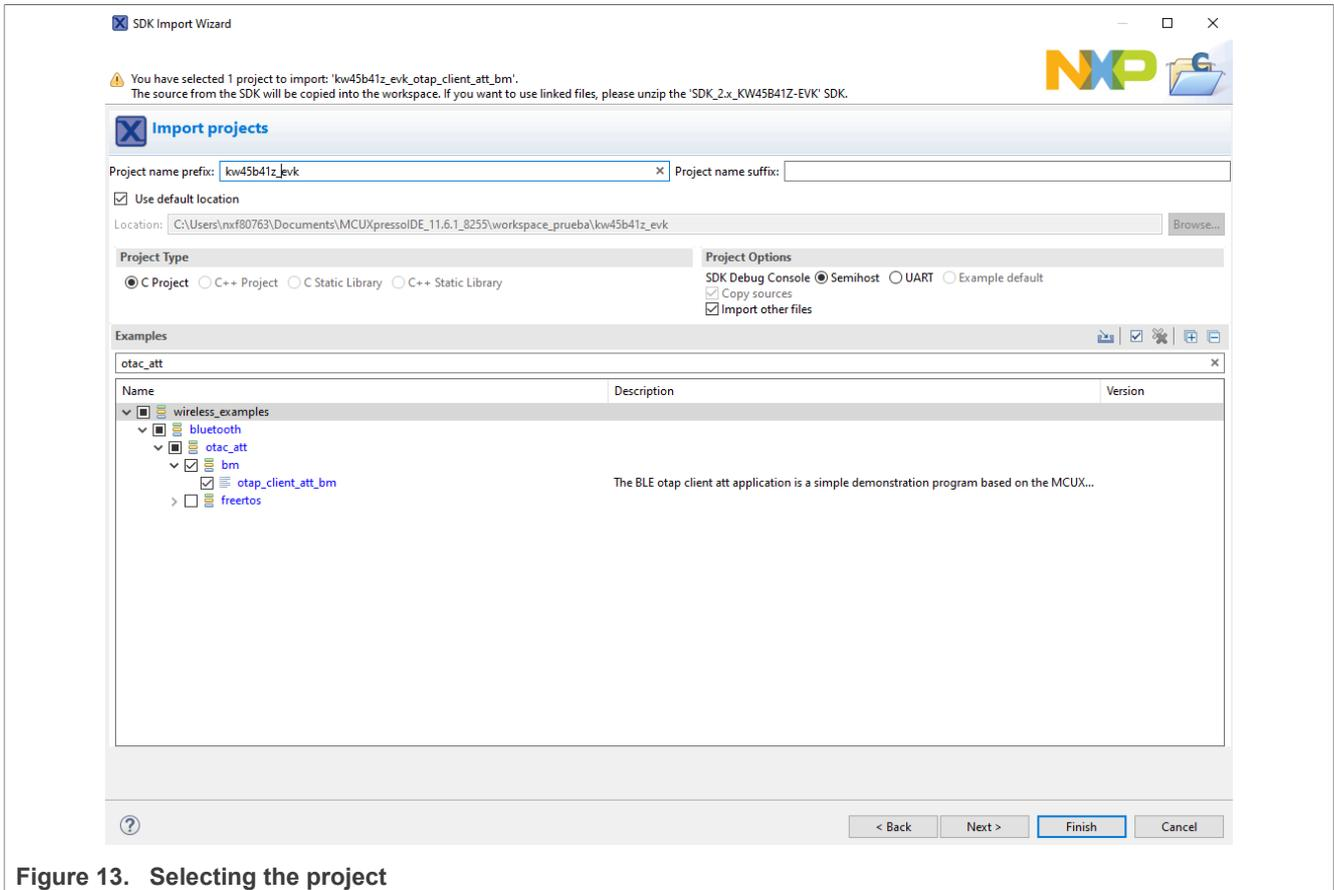

Figure 13. Selecting the project
- In the **Examples** textbox, type `otac_att`. Select the suggested project by `wireless_examples -> framework -> otac_att -> bm`. See Figure 13